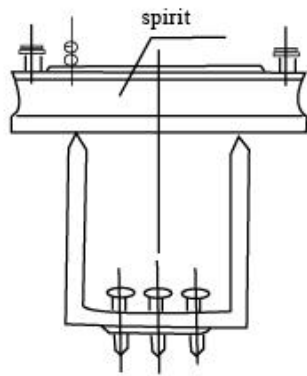

Fig. 4
- 3.1.1 The wheel balancer must be levelled (Fig.4), check it by spirit.